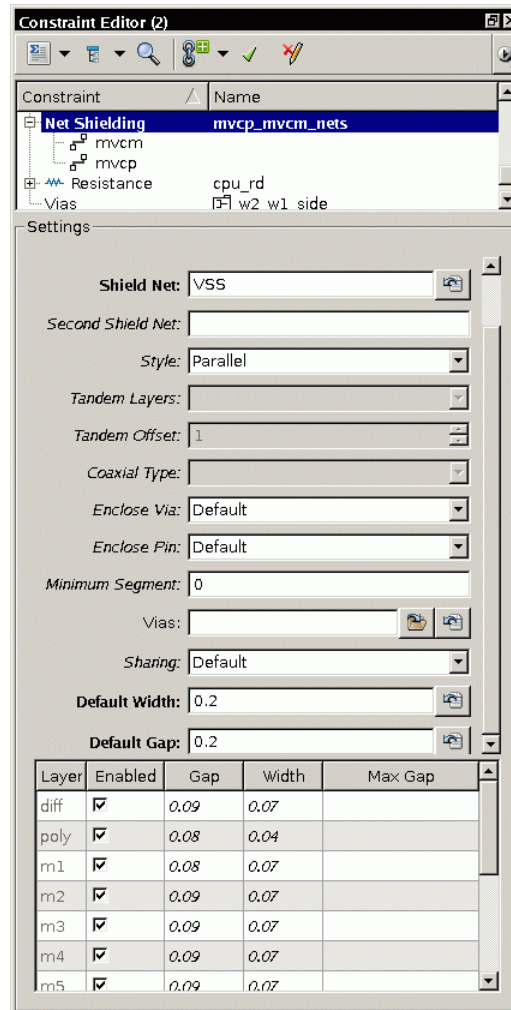

Figure 10 Editing Shield Constraints in the Constraint Editor Window
- c. Edit the **Shield Net**, **Default Width**, and **Default Gap** options as shown in Figure 10.